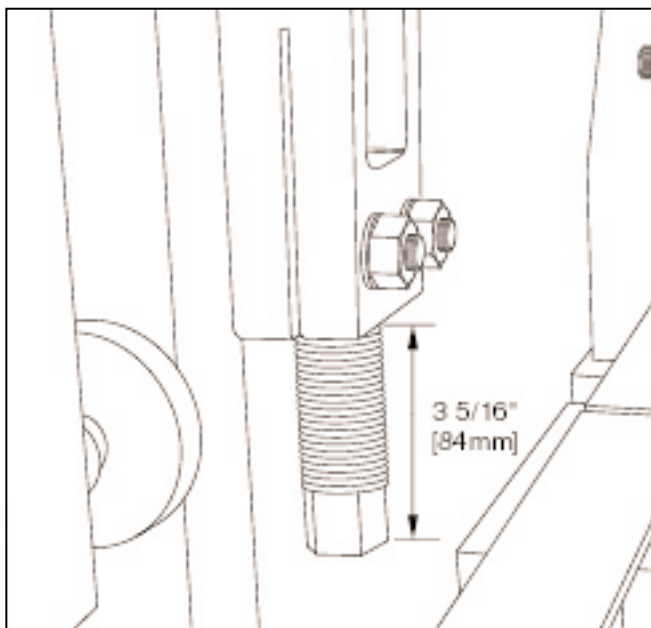

Figure 4.2 ADJUSTING UPPER HEIGHT STOPS
4.1.3 Install the 7" [178mm] long upper height stops (part # 25081) and adjust so that 3 5/16" [84mm] extend past the bottom of the castings (see figure 4.2).